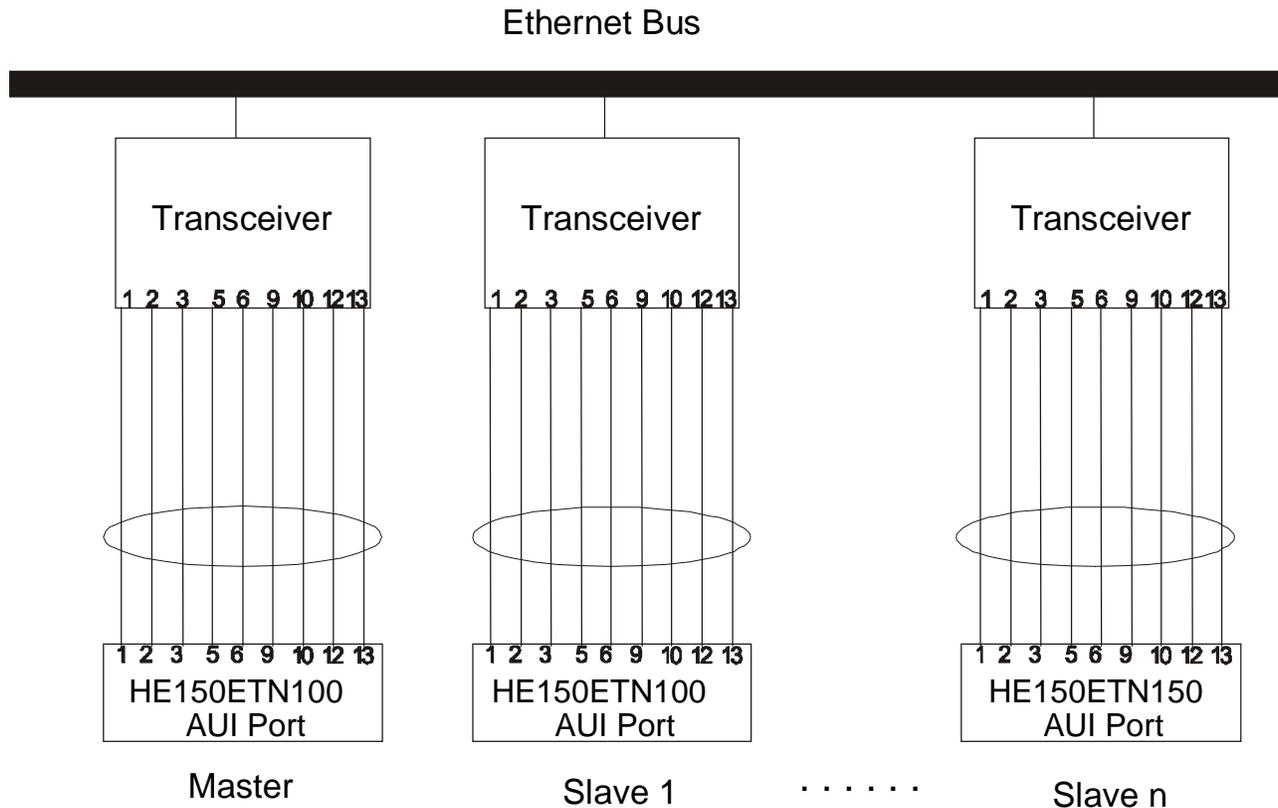

Figure 3.2 - Wiring Diagram
3.3.2 The wiring diagram of an HE150ETN100 link module network is shown in Figure 3.2: